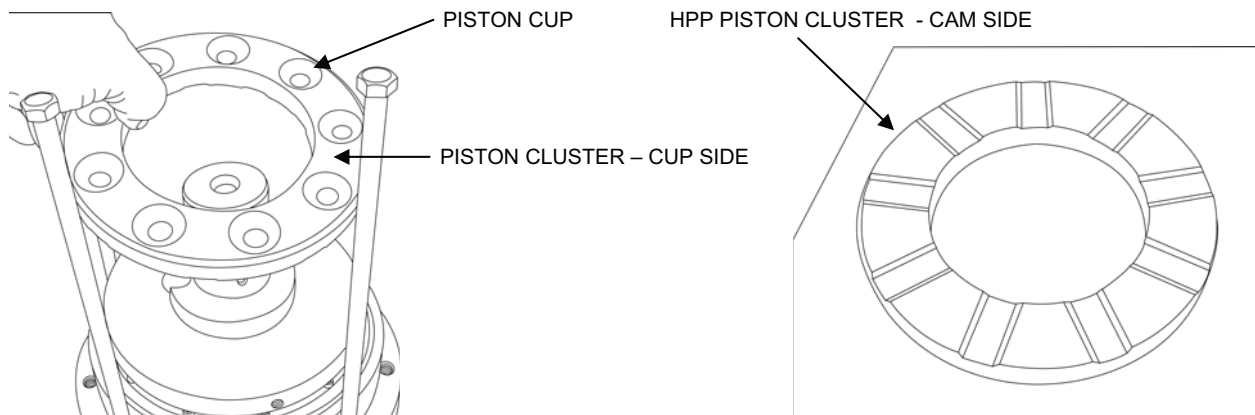

Figure 6. Piston Cluster Removal.
- l. Remove the piston cluster. Set on the work surface cam side up (see Figure 6).
- c. Add a drop of glycerin to the piston cluster cup and cam surfaces (see Figure 6).